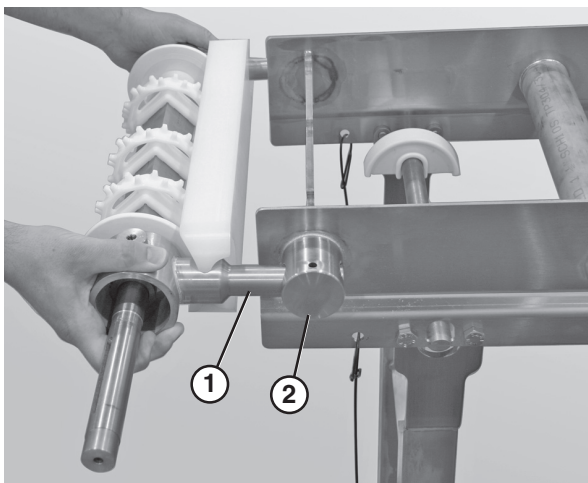

Figure 7
1. Slide the bearing shafts (Figure 7, item 1) into the take up blocks (Figure 7, item 2).